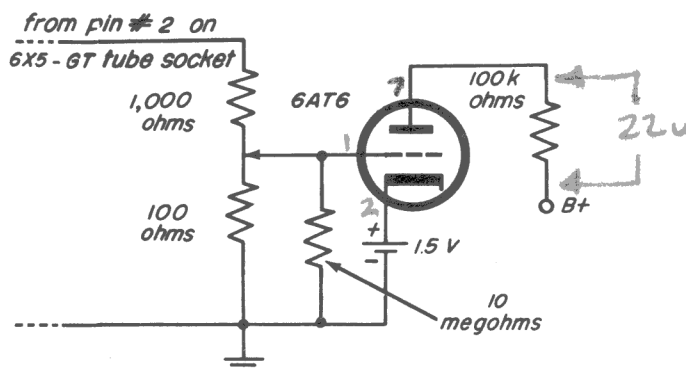

Fig. 23-9
Step 8. Check your circuit against the schematic shown in Fig. 23-9. If it agrees, plug in the power cord and wait about 30 seconds for the tubes to warm up.